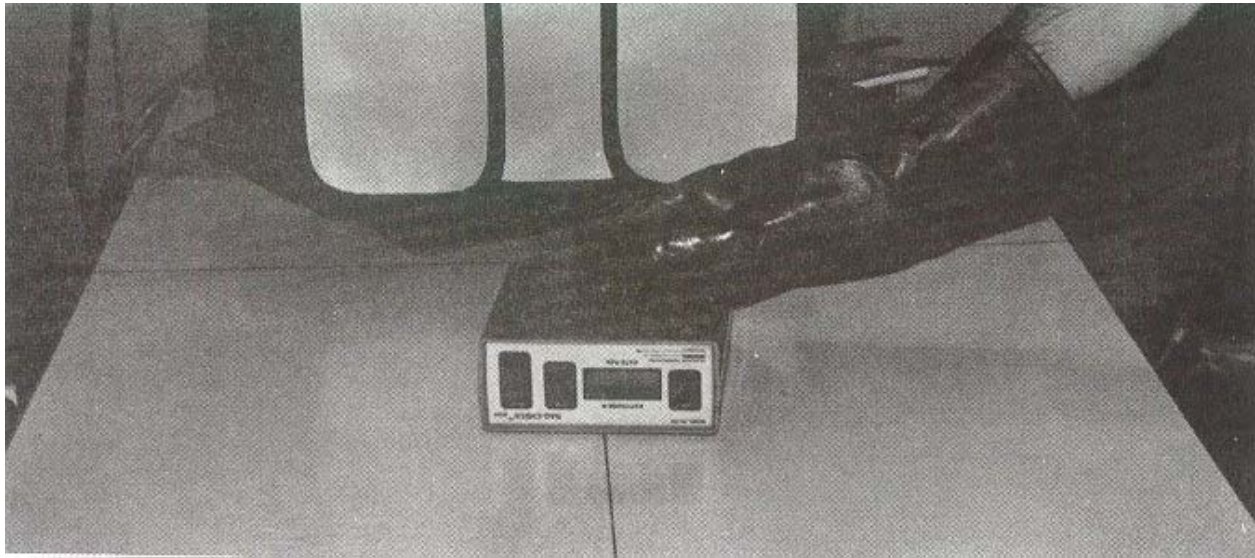

Figure 5-9. Centering the dosimeter chamber to center of radiation field.
- d. Place the dosimeter chamber in the center of the radiation field fluoroscopically (see figure 5-9).